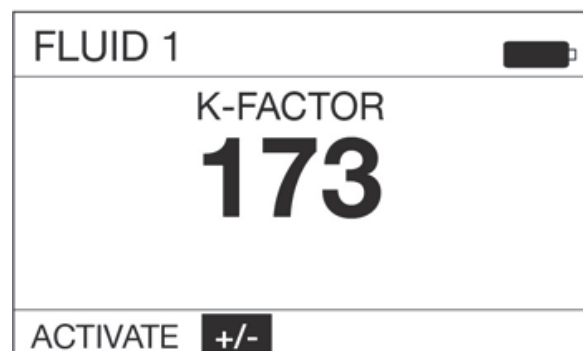

FIG. 63
2. Use the RIGHT ARROW button on the keypad to highlight +/- and press the center ENTER button on the keypad to select the +/- option (FIG. 63).
NOTE: Selecting the GO BACK Function on this screen returns the display to the previous screen (shown in FIG. 63).